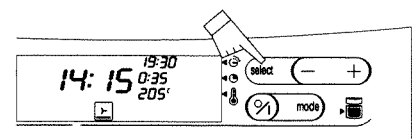

Fig. 8
6. Press the  position then the  touch controls to set the end of cooking time (fig. 8). The display marked 19:30 in (fig. 8) will flash.